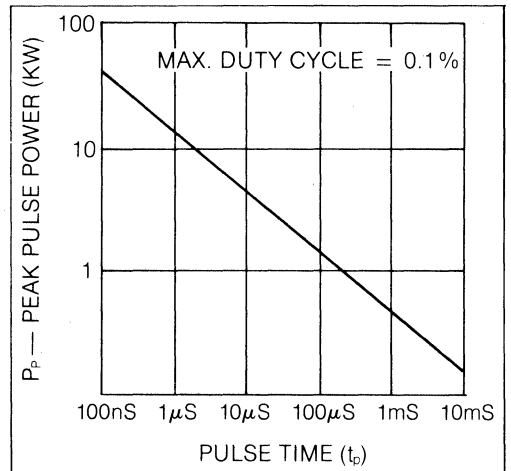

Figure 2 — Peak Pulse Power vs. Pulse Duration
1. Pulse power (P_p) — Choose the TVS series that will handle the Transient Pulse Power. To determine Transient Pulse Power use the simple equation in section 2.1. If I_{pp} is not known or measurable, it can be calculated — see Sections 3 and 4. The pulse duration vs. pulse power graph on the Unitorde TVS305/TVS505 data sheet can then be used to determine the TVS series that will handle the transient. This graph for the TVS505 series is shown in Figure 2.
- b. For P_p (rated) use value from TVS data sheet curve (See Fig. 2 for example).